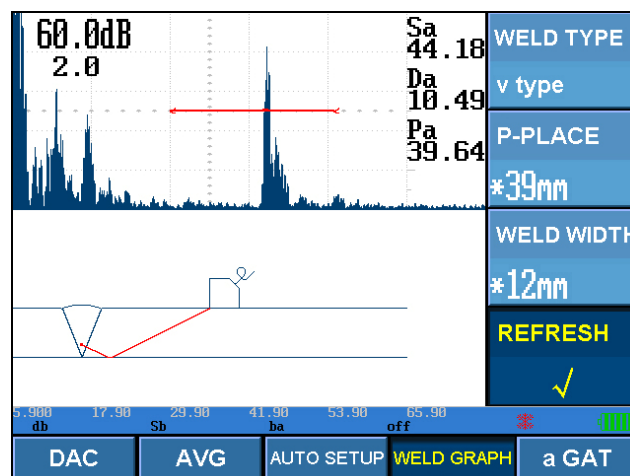

Figure 6-14 Weld Diagram
- (1) Enter "WELD GRAPH" main menu.
- (2) Select weld type: X mode, V mode or close welding graphic illustration function, weld mode means groove mode.
- (3) Input weld width value, namely groove width.
- (4) Input probe position, namely distance from probe front edge to weld center, it changes along with the probe migration. Therefore input the newest probe position timely when using this function.
- (5) Press corresponding key of Refresh menu, instrument make the newest illustrative graph picture as follow. (Refer to Figure 6-14.)